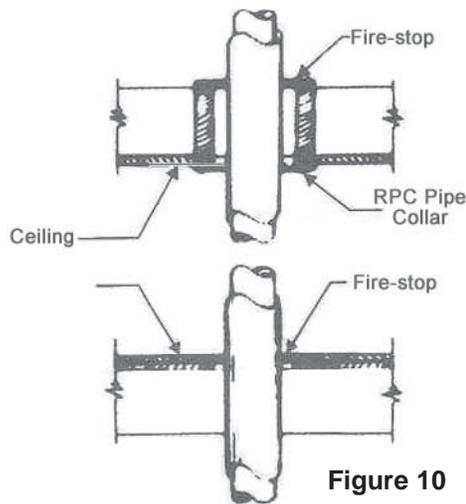

Figure 10
- In single-story, slab-floor houses having an attic space, a firestop must be provided where the vent passes through the ceiling, unless an RSA support is used there. The ceiling should be cut away from the opening frame to **PROVIDE 1-INCH MINIMUM CLEARANCE** from the vent pipe. A firestop consisting of a noncombustible material, such as ¼-thick ceramic board or 26-gauge galvanized sheet metal, should be cut to fit the pipe and the framed opening. The firestop should be fastened to the top of the joists and framing members to eliminate any pockets in which combustible debris might collect. An RPC pipe collar may be used on the underside of the ceiling to finish off the opening. (See Figure 10.)
- In single-story buildings with an attic space and with the gas appliance located in a basement or crawl space, firestops must be provided where the vent passes through both the floor and the ceiling. This can be done by cutting away and framing the floor and ceiling construction and installing firestops of noncombustible material as shown in Figure 10. All combustible construction should be cut away sufficiently to **PROVIDE THE MINIMUM CLEARANCE OF 1 INCH FROM THE VENT PIPE SURFACE.**